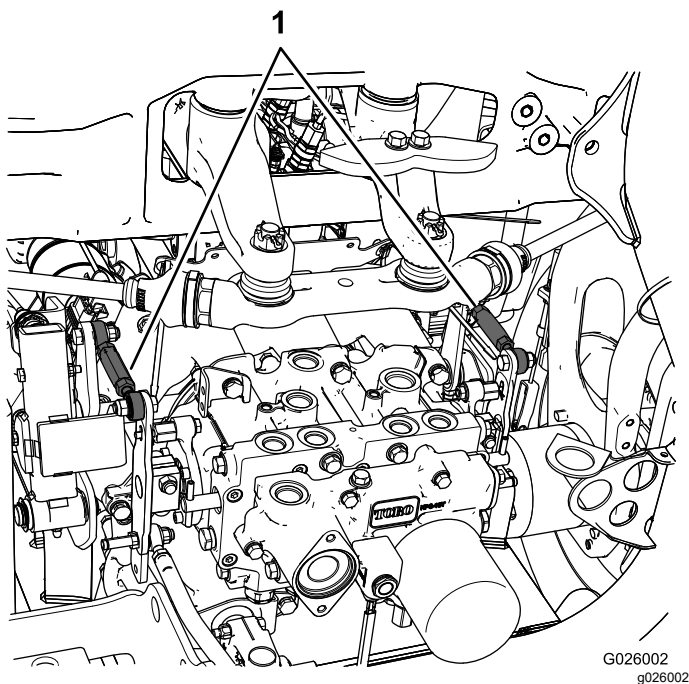

Figure 87
- If the left rear tire is rotating, loosen the jam nuts on the left side transmission control rod (Figure 87).